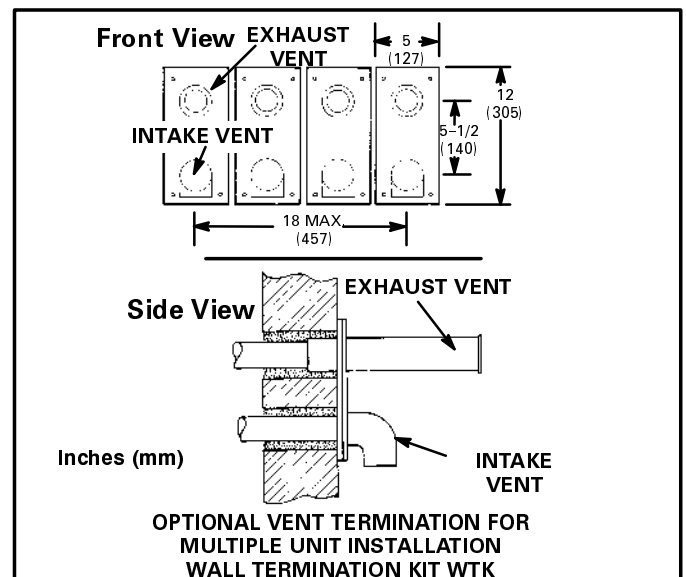

FIGURE 15
- 14- Based on the recommendation of the manufacturer, a multiple furnace installation may use a group of up to four termination kits WTK assembled together horizontally, as shown in figure 15.